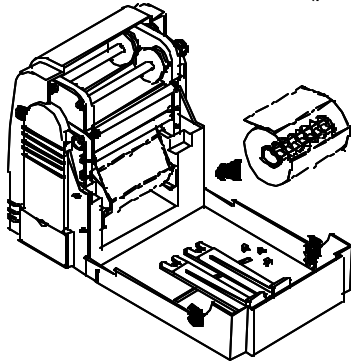

Fig. 2.3.1
3. Put back label roll into the core guide (see figure 2.3.1).